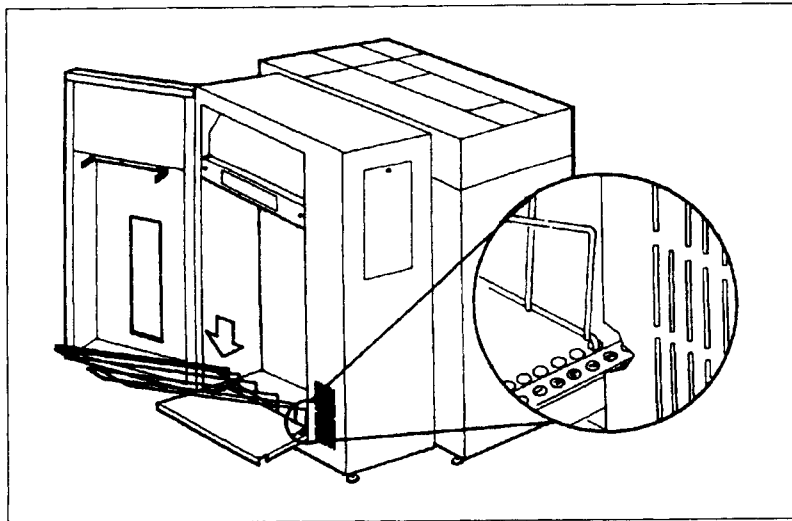

Figure 2-13. Installing the Backstop
- k. Slide the paper tray toward you. Place the backstop in the "E" position on the paper tray and then stand it up (Figure 2-13). Slide the tray back in.